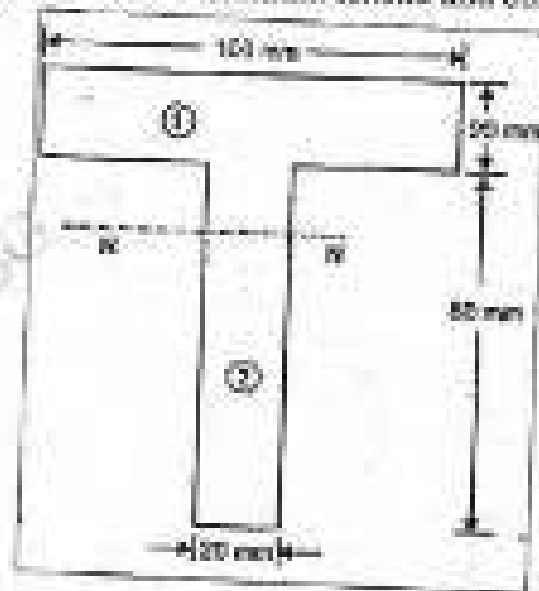

Fig. 3
- Q3) A cast iron beam is of T-section as shown in Fig.3. The beam is simply supported on a span of 8m. The beam carries an UDL of 1.5 kN/m on the entire span. Determine the maximum tensile and compressive stresses. [16]